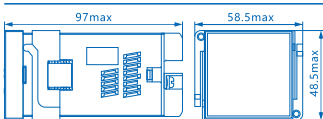
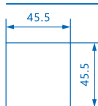

Figure 1 Outline Size
Figure 2 Hole-cutting Size
3.1 Outline and installation size: see Figure 1~ Figure 2, unit: mm.